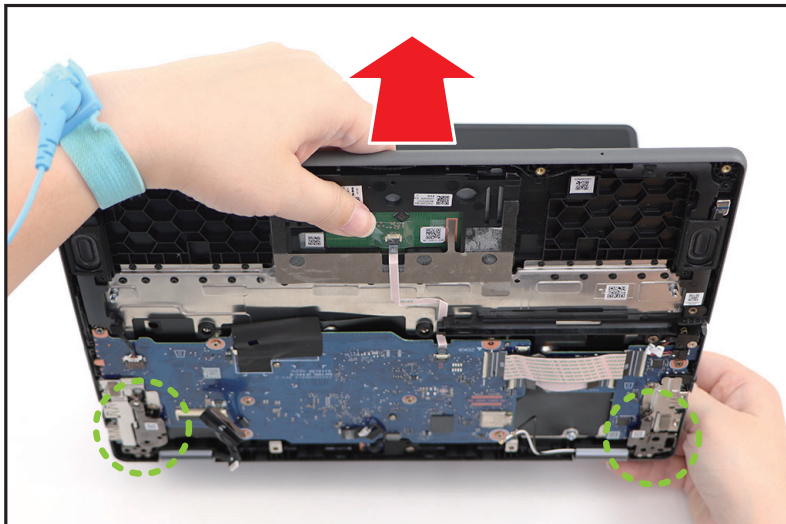

Figure 1-22. LCD Module Removal
6. Disengage the LCD hinges from the guide pins (highlighted with the green circles) on the top assembly. Then remove the top assembly away from the LCD module (Figure 1-22).